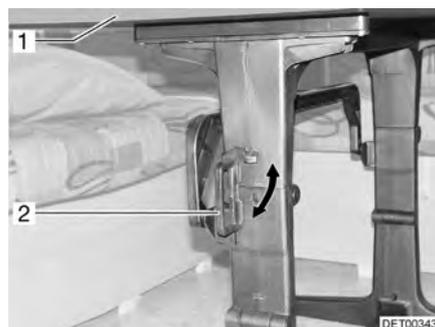

Fig. 69 Swivel table
- Rotate the handle (Fig. 69,2) into the horizontal position.
- Swivel the table-top (Fig. 69,1) downward in a circular movement.